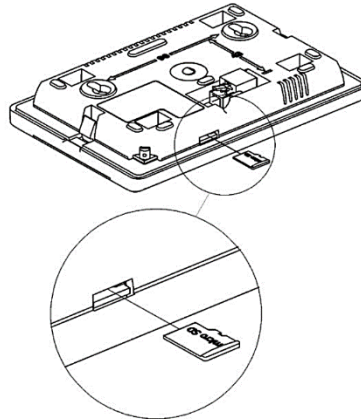

Figure 9. Inserting a microSD card into the control panel port
- There is a port for inserting a microSD card at the bottom of the control panel. Insert the card as in Figure 9.